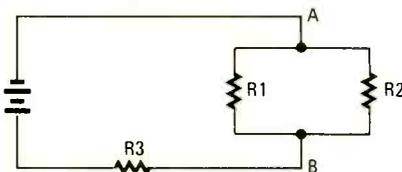

FIG. 1
1. Which statement is true regarding Fig. 1.